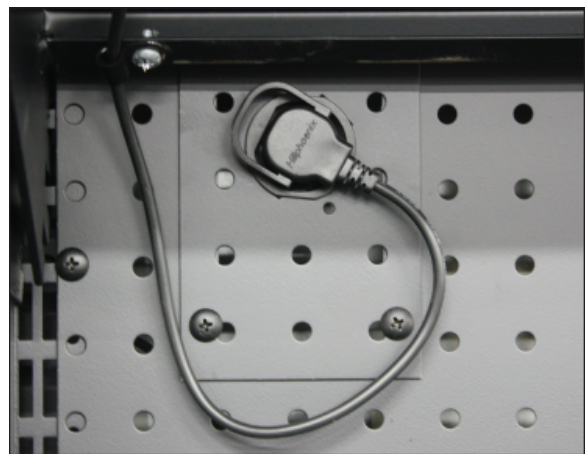

Fig. 7 LED light power cord
1. Unplug the luminaire (Fig. 7).
2. Remove the screws from the light clamps (Fig. 7) while keeping ahold of the light. Once the screws are removed the light rod will come away from the case with the clamps still holding to the light.